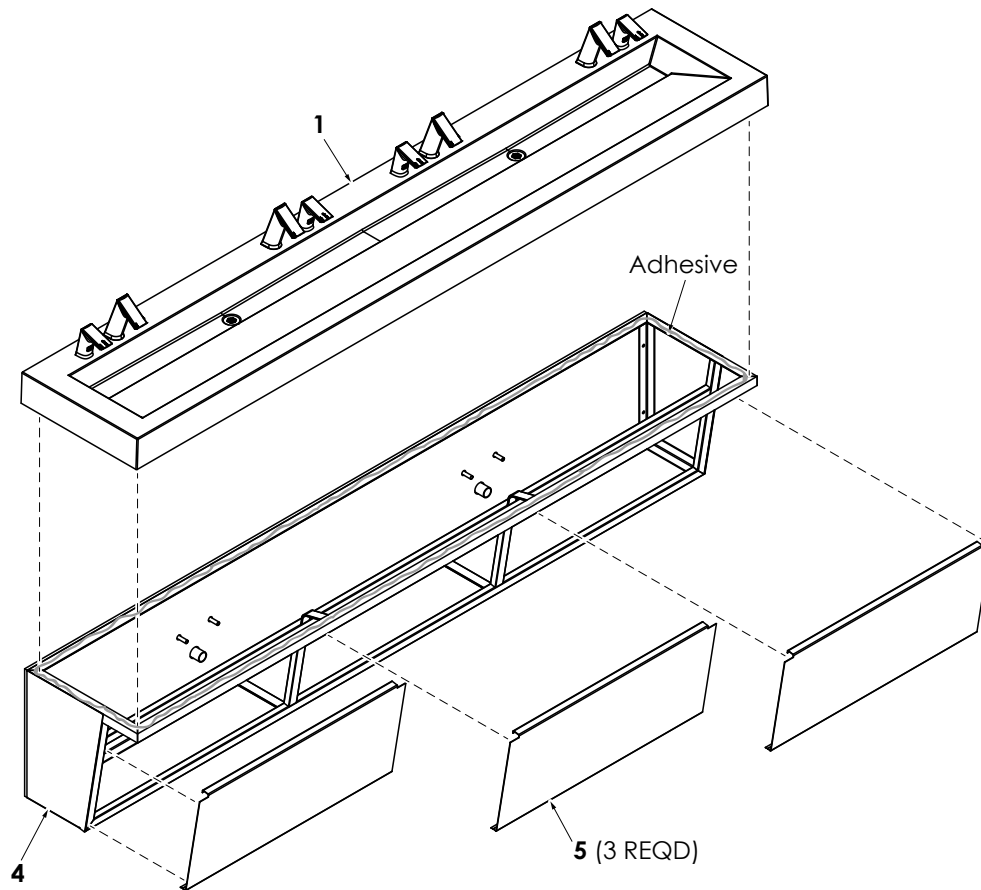

Figure 28
7. Install Deck (1, Figure 28) onto Enclosure (4).